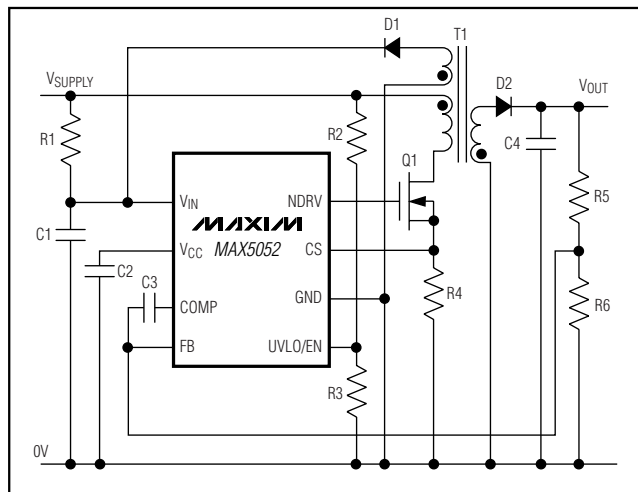
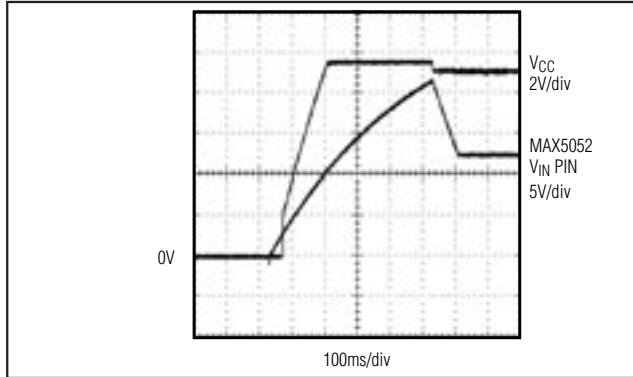

Figure 1. Nonisolated Power Supply with Programmable Input-Supply Start Voltage
Figure 2.  $V_{IN}$  and  $V_{CC}$  During Startup when Using the MAX5052 in Bootstrapped Mode (Figure 1)
**Note 3:** The MAX5052 is intended for use in universal input power supplies. The internal clamp circuit is used to prevent the bootstrap capacitor (C1 in Figure 1) from charging to a voltage beyond the absolute maximum rating of the device when EN/UVLO is low. The maximum current to  $V_{IN}$  (hence to clamp) when UVLO is low (device in shutdown) must be externally limited to 2mA, max. Clamp currents higher than 2mA may result in clamp voltage higher than 30V, thus exceeding the absolute maximum rating for  $V_{IN}$ . For the MAX5053, do not exceed the 24V maximum operating voltage of the device.
Power supplies designed with the MAX5052 use a high-value startup resistor, R1, that charges a reservoir capacitor, C1 (see Figure 1). During this initial period, while the voltage is less than the internal bootstrap UVLO threshold, the device typically consumes only 45μA of quiescent current. This low startup current and the large bootstrap UVLO hysteresis helps to minimize
Use this UVLO function to program the input-supply start voltage. For example, a reasonable start voltage for a 36V to 72V telecom range might be set at 34V. Calculate the divider resistor values, R2 and R3 (see Figure 1) by using the following formulas:
Normally  $V_{IN}$  is derived from a tertiary winding of the transformer. However, at startup there is no energy delivered through the transformer, hence, a special bootstrap sequence is required. Figure 2 shows the voltages on  $V_{IN}$  and  $V_{CC}$  during startup. Initially, both  $V_{IN}$  and  $V_{CC}$  are 0V. After the line voltage is applied, C1 charges through the startup resistor, R1, to an intermediate voltage. At this point, the internal regulator begins charging C2 (see Figure 1). The MAX5052 uses only 45μA of the current supplied by R1, and the remaining input current charges C1 and C2. The charging of C2 stops when the  $V_{CC}$  voltage reaches approximately 9.5V, while the voltage across C1 continues rising until it reaches the wake-up level of 21.6V. Once  $V_{IN}$  exceeds the bootstrap UVLO threshold, NDRV begins switching the MOSFET and transfers energy to the secondary and tertiary outputs. If the voltage on the tertiary output builds to higher than 9.9V (the bootstrap UVLO lower threshold), then startup has been accomplished and sustained operation commences.
The  $V_{IN}$  bypass capacitor, C1, supplies current immediately after wake up (see Figure 1). The size of C1 and the connection configuration of the tertiary winding determine the number of cycles available for startup. Large values of C1 increase the startup time but also supply gate charge for more cycles during initial start-up. If the value of C1 is too small,  $V_{IN}$  drops below 9.9V because NDRV does not have enough time to switch and build up sufficient voltage across the tertiary output which powers the device. The device goes back into UVLO and does not start. Use a low-leakage capacitor for C1 and C2.
The above startup method is applicable to a circuit similar to the one shown in Figure 1. In this circuit, the tertiary winding has the same phase as the output windings. Thus, the voltage on the tertiary winding at any given time is proportional to the output voltage and goes through the same soft-start period as the output voltage. The minimum discharge voltage of C1 from 22V to 10V must be greater than the soft-start time of 60ms.
The MAX5052/MAX5053 include an internal error amplifier that can be used to regulate the output voltage in the case of a nonisolated power supply (see Figure 1). Calculate the output voltage using the following equation: